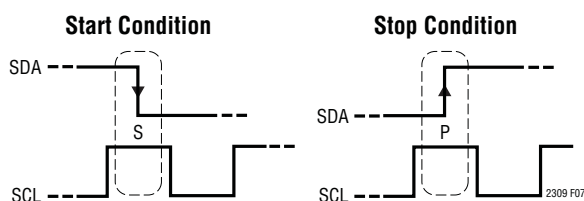

Figure 7. Timing Diagrams of Start and Stop Conditions
Referring to Figure 7, a Start (S) condition is generated by transitioning SDA from high to low while SCL is high. The bus is considered to be busy after the Start condition. When the data transfer is finished, a Stop (P) condition is generated by transitioning SDA from low to high while SCL is high. The bus is free after a Stop condition is generated. Start and Stop conditions are always generated by the master.